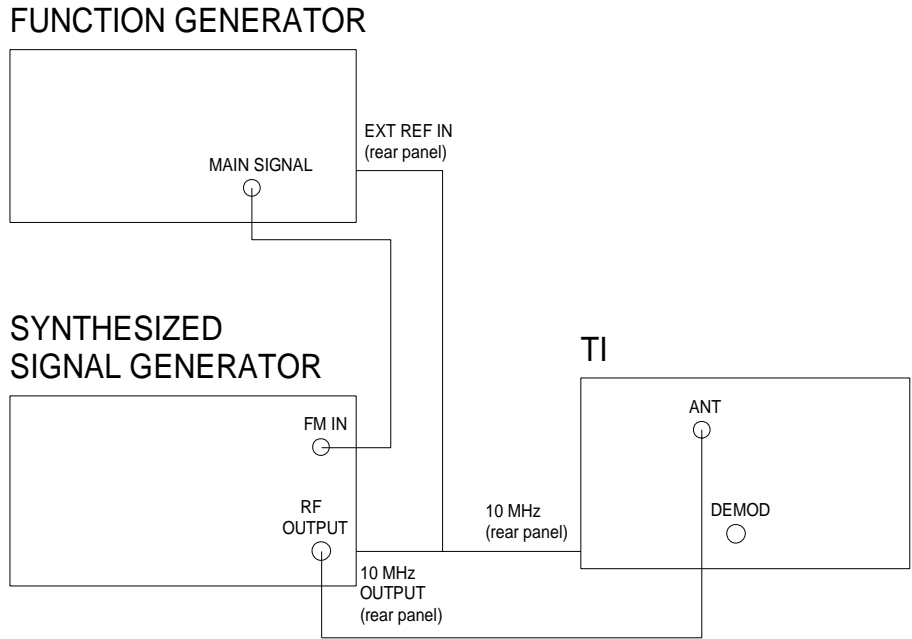

Figure 1.
4.8.1 Connect equipment as shown in Figure 1.